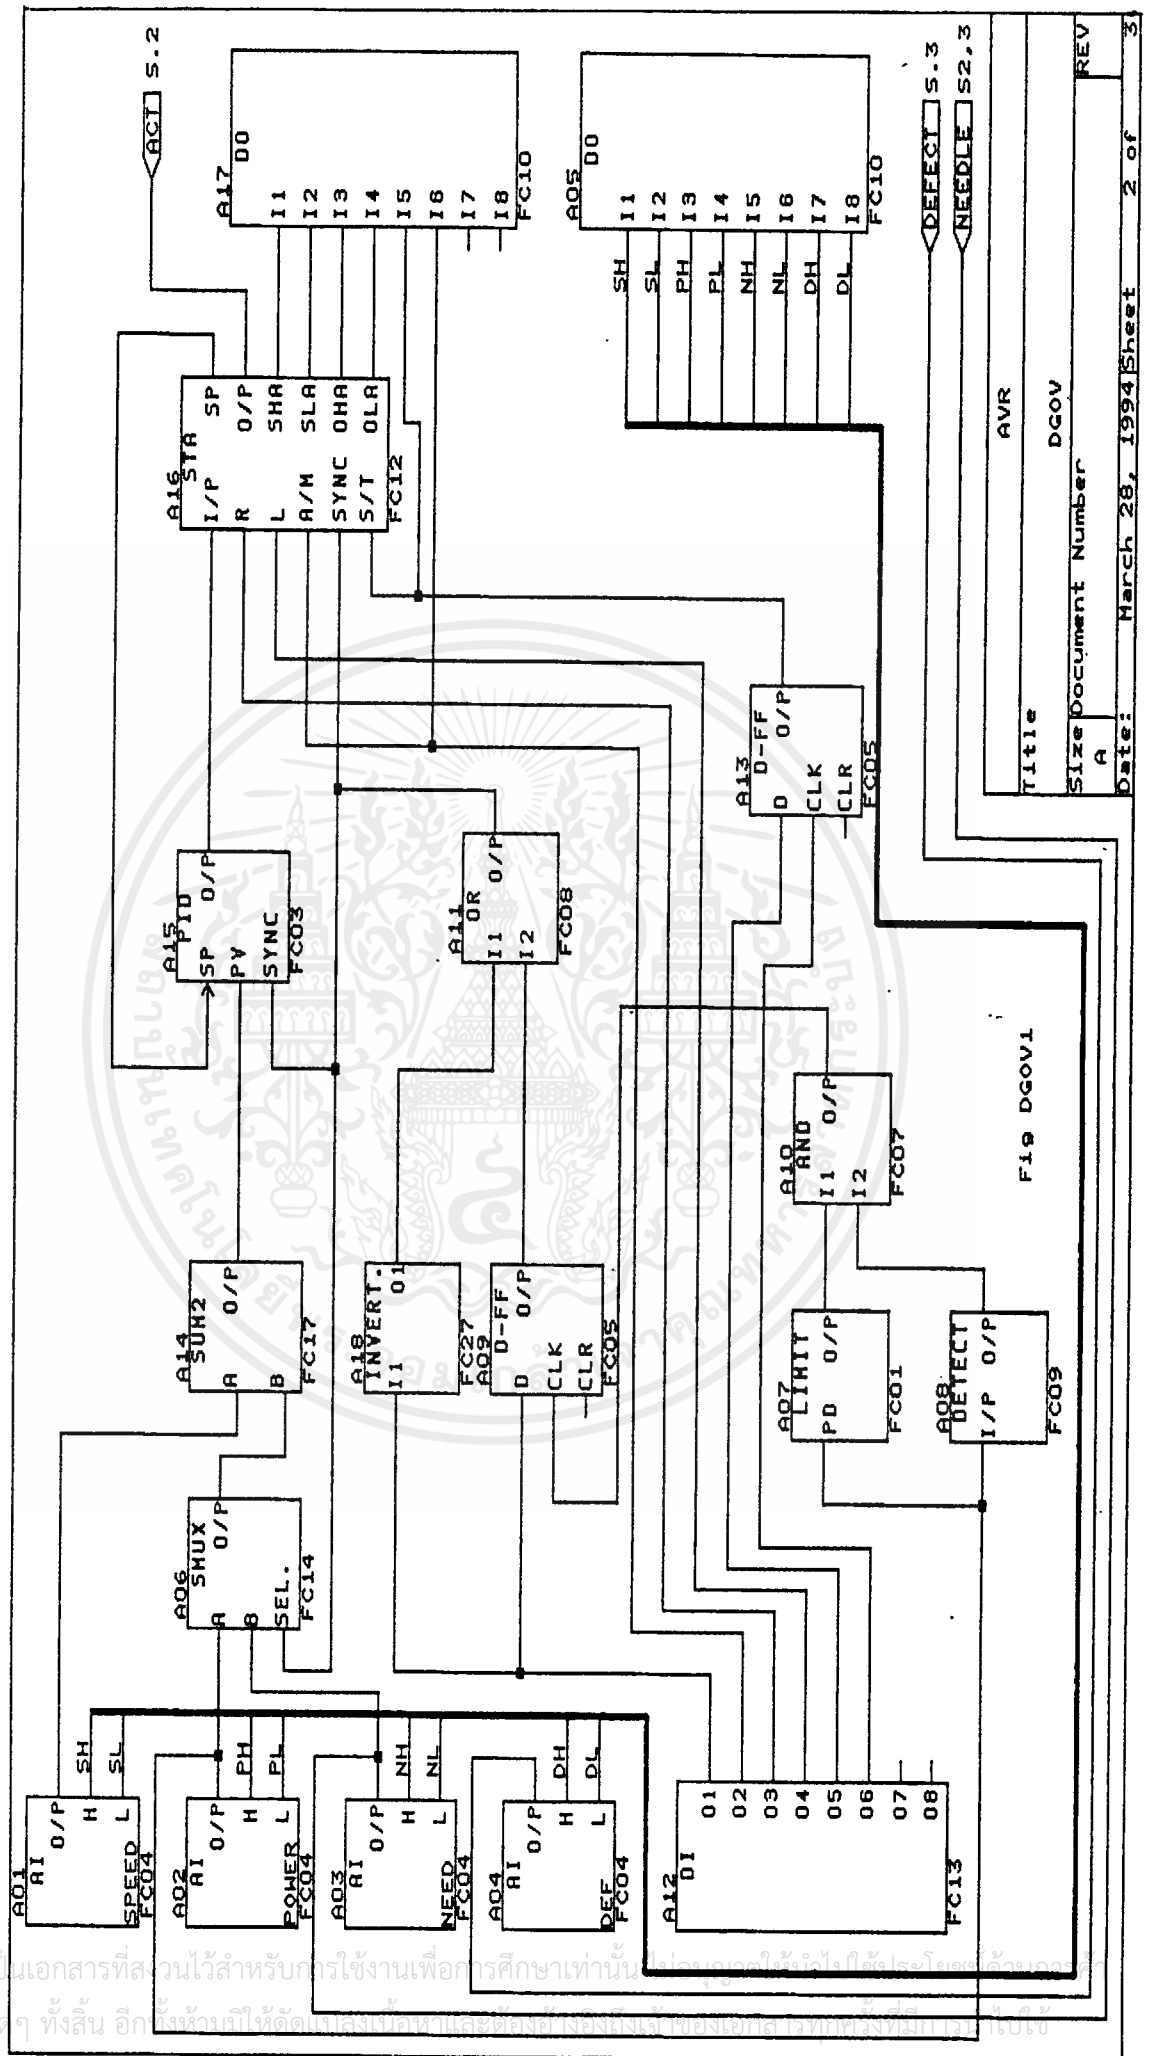

Fig DGOV1
- (2) FIG DGOV1 : TOTAL DGOV. ON-LINE